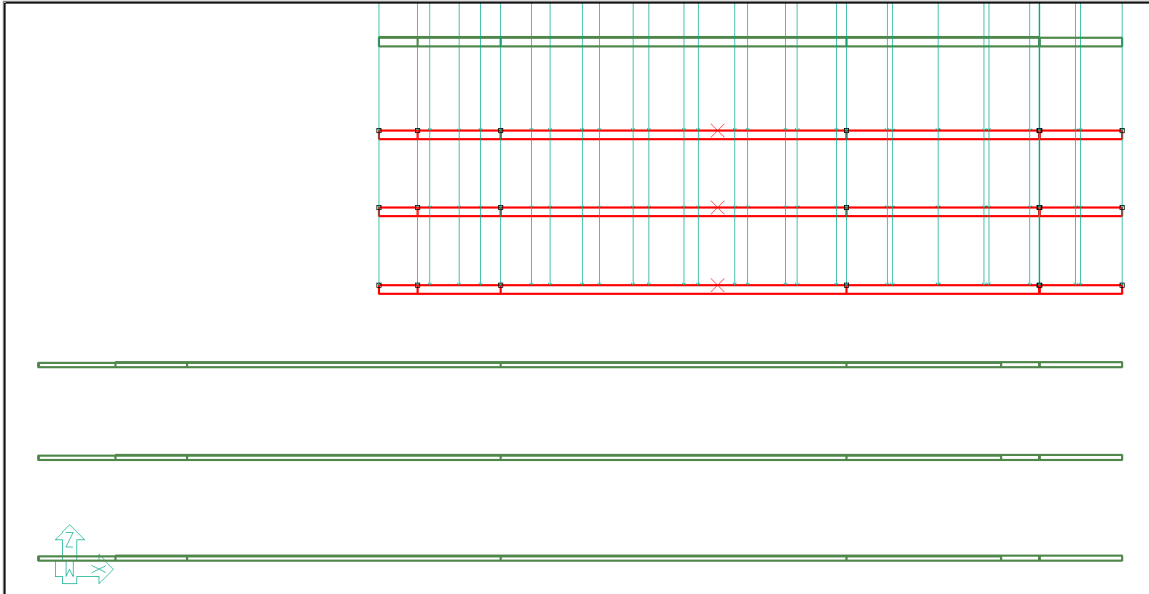

FIGURE 8-18
- The user will now see green lines representing the projection of the load as shown in **FIGURE 8-18**. We have applied a 100psf area load to each of the Level 4 through Level 6 slabs under the *Live Load* case.